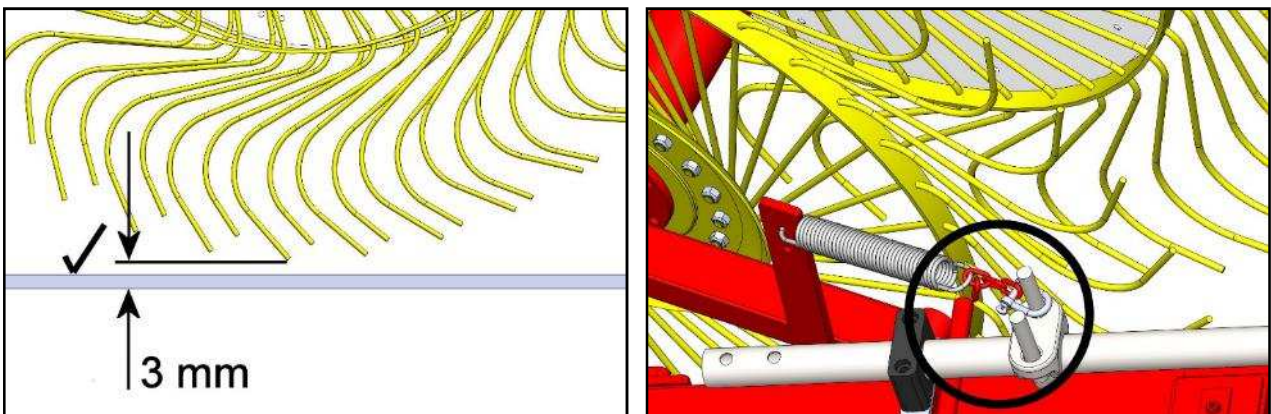

Figure 34
- Make sure the rear star wheel of each pair almost touches the ground (*see Figure 34*)